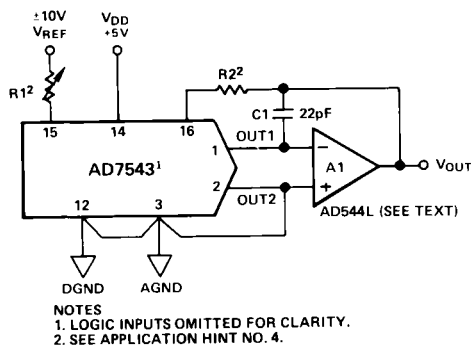
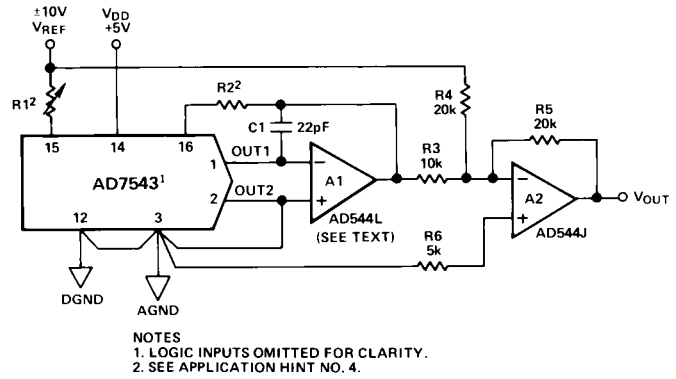

Figure 6. Unipolar Binary Operation (2-Quadrant Multiplication)
Figure 7. Bipolar Operation (4-Quadrant Multiplication)
Input Coding	12-Bit Unipolar Binary or 12-Bit Offset Binary (see Figures 6 and 7), serial load (MSB First)
Gain is defined as the ratio of the DAC's Full Scale output to its reference input voltage. An *ideal* AD7543 would exhibit a gain of  $-4095/4096$ . Gain error is adjustable using external trims as shown in Figures 6 and 7.
Register B can be asynchronously reset to 0000 0000 0000 by bringing CLR momentarily LOW. This allows the DAC output voltage to be set to a known condition, thus simplifying system initialization procedure. When operating the AD7543 in the unipolar circuit of Figure 6, a CLEAR causes the DAC output voltage to equal 0V. When using the bipolar circuit of Figure 7, a CLEAR causes the DAC output to equal -VREF.
Figure 6 shows the analog circuit connections required for unipolar binary (2-quadrant multiplication) operation. The logic inputs are omitted for clarity. With a dc reference voltage or current (positive or negative polarity) applied at pin 15, the circuit is a unipolar D/A converter. With an ac reference voltage or current (again of + or - polarity) the circuit provides 2-quadrant multiplication (digitally controlled attenuation). The input/output relationship is shown in Table III.
Table III. Unipolar Binary Code Table for Circuit of Figure 6
Figure 7 and Table IV illustrate the circuitry and code relationship for bipolar operation. With a dc reference (positive or negative polarity) the circuit provides offset binary operation. With an ac reference, the eleven LSBs provide digitally controlled attenuation of the ac reference while the MSB provides polarity control.
Table IV. Bipolar Code Table for Offset Binary Circuit of Figure 7
4. GAIN TEMPERATURE COEFFICIENTS: The gain temperature coefficient of the AD7543 has a maximum value of 5ppm/°C and a typical value of 2ppm/°C. This corresponds to gain shifts of 2.0LSBs and 0.82LSBs respectively over a 100°C temperature range. When trim resistors are used to adjust full-scale range as shown in Figures 6 and 7 the temperature coefficient of R1 and R2 should be taken into account. It may be shown that the additional gain temperature coefficients introduced by R1 and R2 may be approximately expressed as follows:—